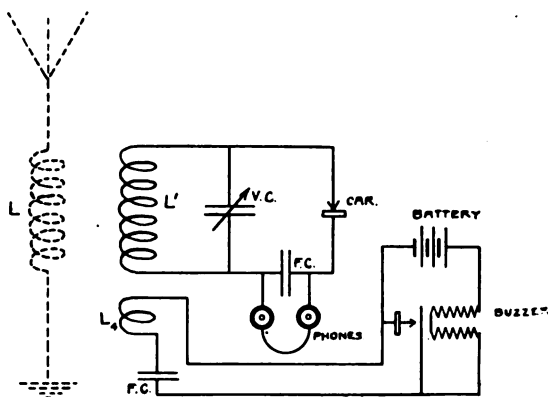

Fig. 25
**Test Buzzers**—Test buzzers are often used to determine the adjustment of a receiving outfit for the most sensitive adjustment without necessarily receiving signals from a distant transmitting station. The device is shown in Fig. 25, near to the tuning circuits, and consists of an ordinary buzzer with a condenser shunted around the vibrator. It is in reality a miniature transmitting set, sending out highly damped waves, which, in turn, induce currents in the receiving tuner circuits, enabling the operator to secure a maximum degree of sensitivity in the detector adjustment. Some-